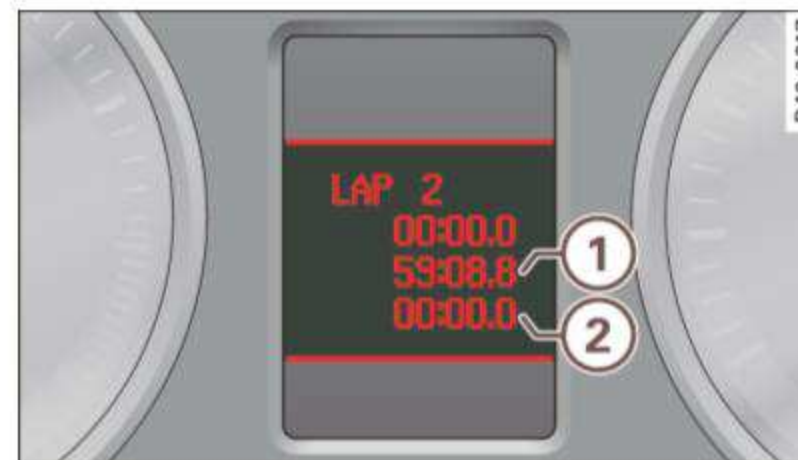

Fig. 20 Display: Lap 1 is saved, lap 2 is started
After being saved, the first recorded lap time moves from the lowest to the next highest line in the display ① ⇒ page 30, fig. 20. The lower line ② identifies the newly started lap time. ■